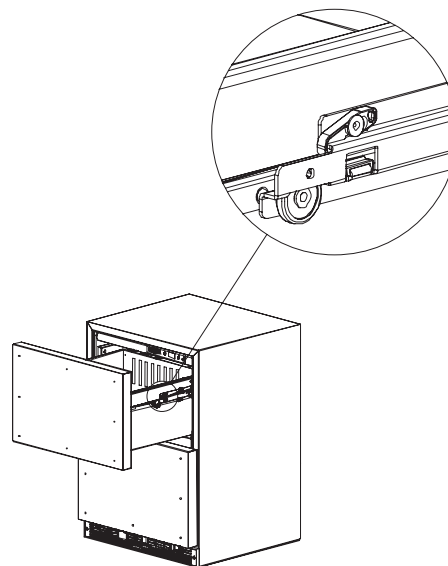
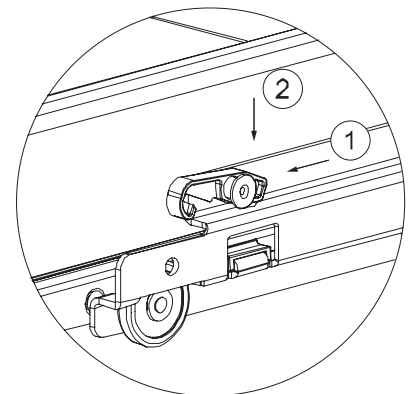

Figure 1
Figure 2
1. Remove drawer from unit. Begin by pulling out the drawer. Locate the drawer lock which can be found on the outside of the cabinet slide. (Figure 1). Push the back of the drawer lock forward and then down, releasing the drawer from the cabinet slide. (Figure 2). Repeat this on the opposite side of the drawer. Lift the drawer up from the slides at 90° to fully remove the drawer from the cabinet. (Figure 3).
2. Remove drawers. (This is not required to remove the light, but will provide better access). See Figures 1 through 3 in Full Overlay Panel Installation on page 6.